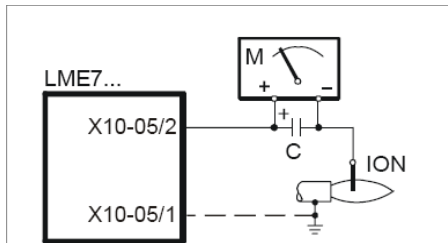

Fig. 4: Detection by electrode
2. Slide VD forward up to the stop, fig. 4.